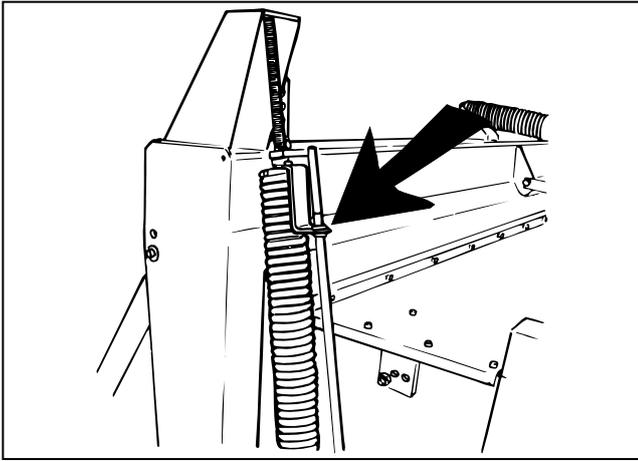

Fig. 3-17
**Fig. 3-17** Having connected the machine to the tractor in a fixed height decided by the length of the support chain and having balanced the machine in both sides the spring indicator is adjusted.